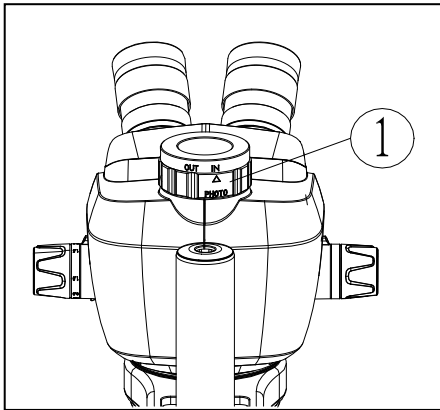

Fig 11
**3.2.7 Choose light path (Trinocular main body) (Fig11)**
1. Through binocular light path to observe sample, please turn the switching knob① to **IN**. (Fig 11)
2. Through camera light path, please turn the switching knob① to **OUT**. (Fig 11)